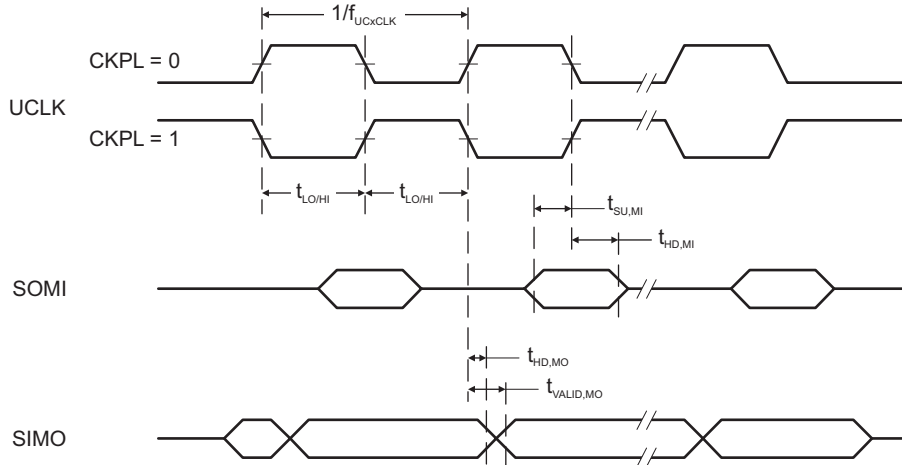
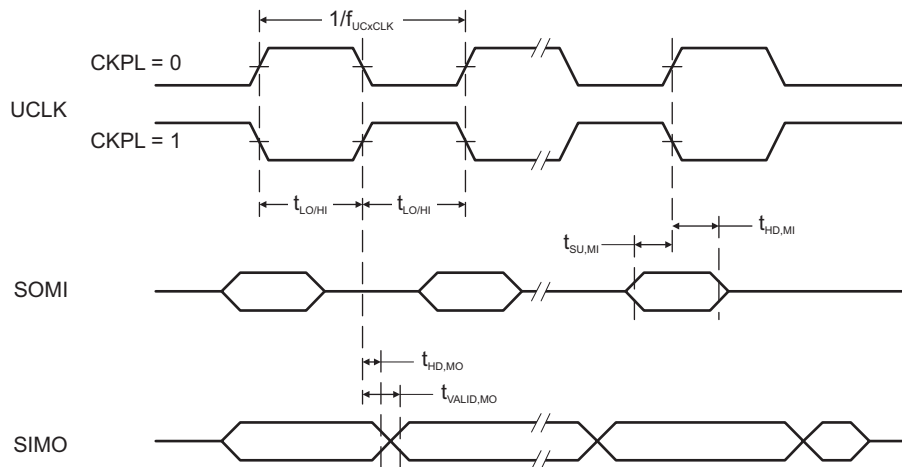

Figure 5-11. SPI Master Mode, CKPH = 0
Figure 5-12. SPI Master Mode, CKPH = 1
(see Figure 5-11 and Figure 5-12)
- (2) Specifies the time to drive the next valid data to the SIMO output after the output changing UCLK clock edge. See the timing diagrams in Figure 5-11 and Figure 5-12.
- (3) Specifies how long data on the SIMO output is valid after the output changing UCLK clock edge. Negative values indicate that the data on the SIMO output can become invalid before the output changing clock edge observed on UCLK. See the timing diagrams in Figure 5-11 and Figure 5-12.
- (2) Specifies the time to drive the next valid data to the SOMI output after the output changing UCLK clock edge. See the timing diagrams in Figure 5-11 and Figure 5-12.
- (3) Specifies how long data on the SOMI output is valid after the output changing UCLK clock edge. See the timing diagrams in Figure 5-11 and Figure 5-12.